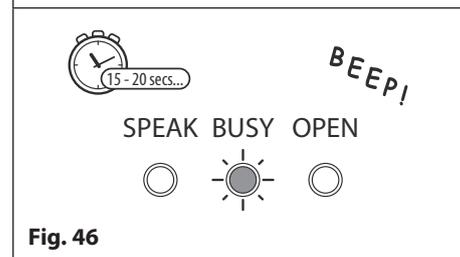

Fig. 46
6. The busy LED will continue to flash for a further 15-20 seconds while it resets the master code and then emit a single beep, as shown in **Fig.46**;